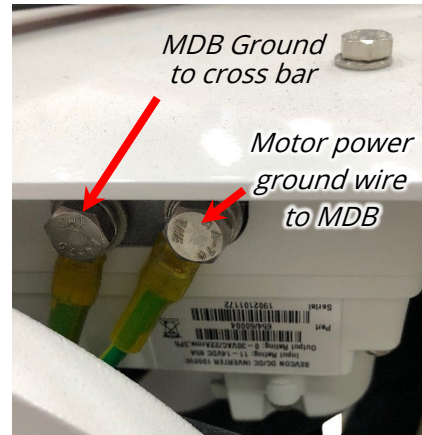

Figure 45: DC MDB ground lugs
- ix. **ATTACH** motor ground wire to ground lug on side of MDB with 10 mm wrench. (fig. 45)